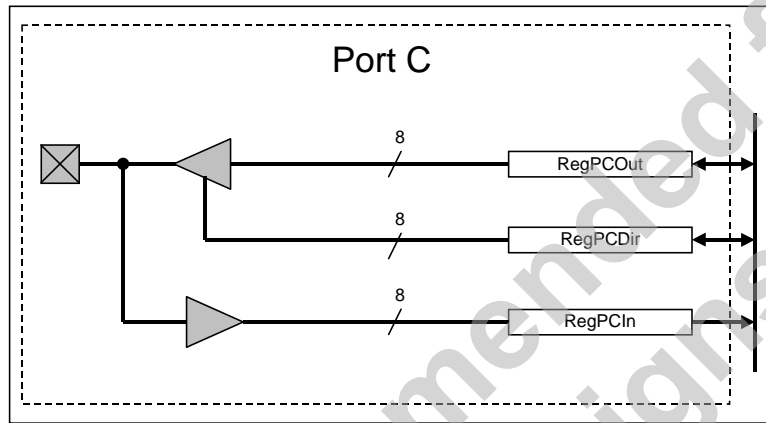

Figure 13-1: structure of Port C
Port C (PC) is a general purpose 8 bit input/output digital port. Figure 13-1 shows its structure.